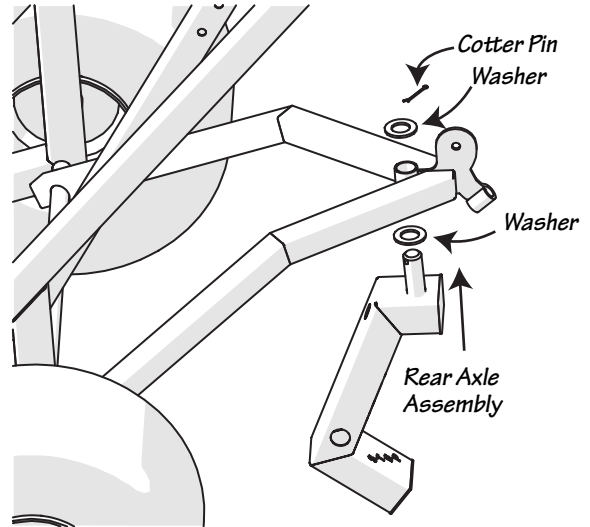

Fig. 2-1
4. Slide the washer over the axle pin and insert cotter pin, and split the cotter pin secure the axle assembly. As shown in Fig 2-1.